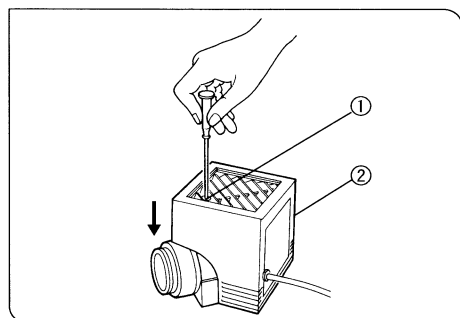

Fig. 7
(Figs. 7, 8, 9)
1. Fully loosen the lamp housing clamping screw ① on top of the lamp housing cover with the provided Allen screwdriver.
2. Lift the lamp housing cover ② upward to remove it. (Fig. 7)
5. Slide the lamp housing cover onto the housing base from above. Tighten the clamping screw ① while pressing downward on the cover. (Fig. 7)